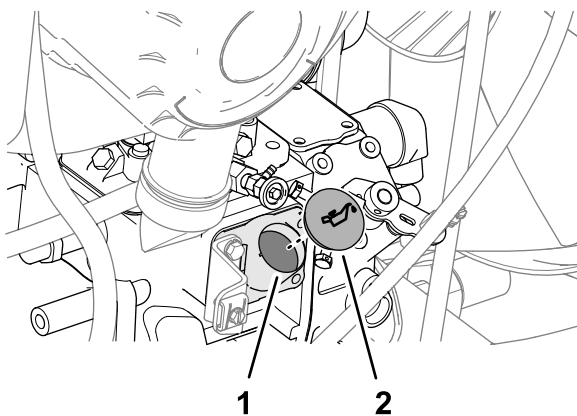

Figure 68
5. If the oil level is low, at the right side of the engine—remove the oil-fill cap (Figure 68) and gradually add small amounts of oil, checking the level frequently, until the level reaches the Full mark on the dipstick.